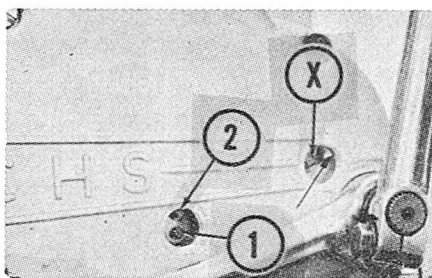

Fig. SA1-8—View of clutch adjustment points. Refer to text.
**CLUTCH.** On all except 4 speed 100cc models, remove the two plugs from left side cover (Fig. SA1-8). Loosen lock screw (1) and turn screw (2) counter-clockwise 1 turn. Turn the cable adjuster (guide) on the hand lever in. Pull the clutch hand lever slightly and observe the clutch lever (X). The cable adjuster on hand lever should be adjusted so that lever (X) rests on the stop (at arrow) and just begins to move when the hand lever is depressed approximately  $\frac{1}{8}$  inch. After cable is adjusted, turn